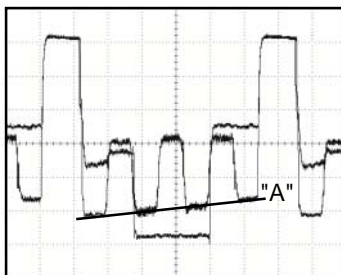

Fig. 2-1
4. Press the VOL. UP/DOWN button on the remote control until the section "A" becomes as straight line **(Refer to Fig. 2-1)**